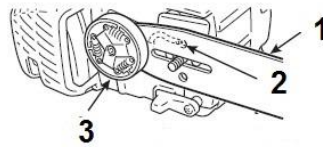

Fig. 24
- Clean the bar groove (**Fig. 24- ①**) with a small screwdriver.
- Clean the oil hole (Fig. 24- ②) with a steel wire.
- Check the gear (Fig. 24- ③) and clean the mounting area of the bar before reassembling or replacing it.